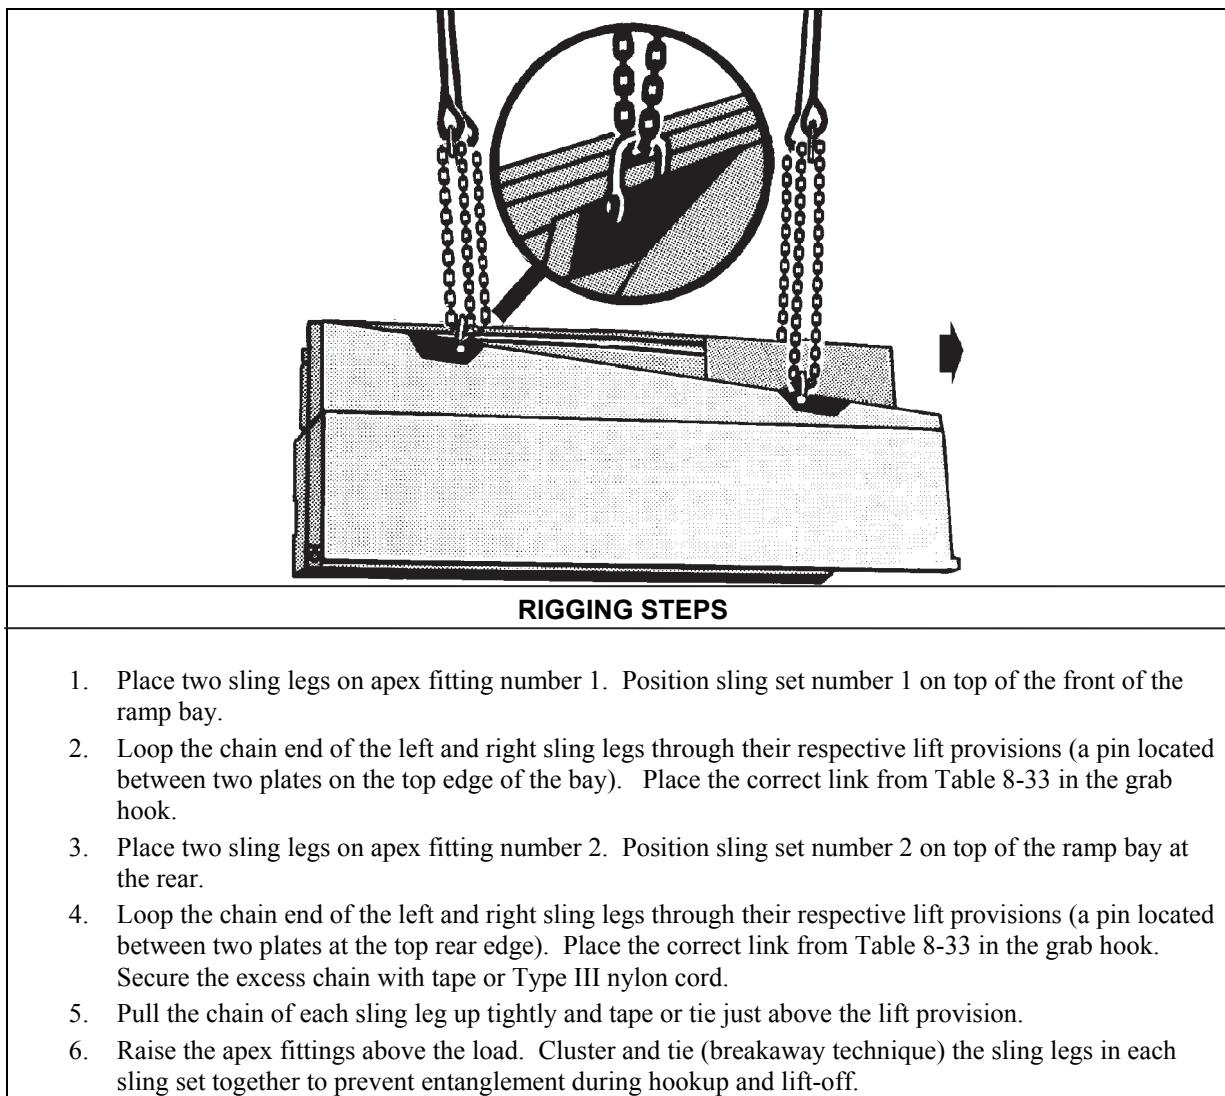

Figure 8-33. Ribbon Bridge, Ramp Bay
- **Rigging.** Rig the load according to the steps in Figure 8-33.